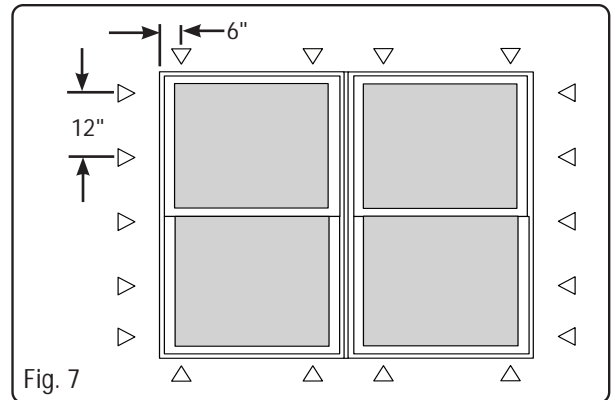

Fig. 7
- If using installation clips, ensure they are attached to the unit prior to starting installation (Fig. 1 on page 2). Installation clips should be spaced 6" from each corner and 12" on center thereafter, (Fig. 7).